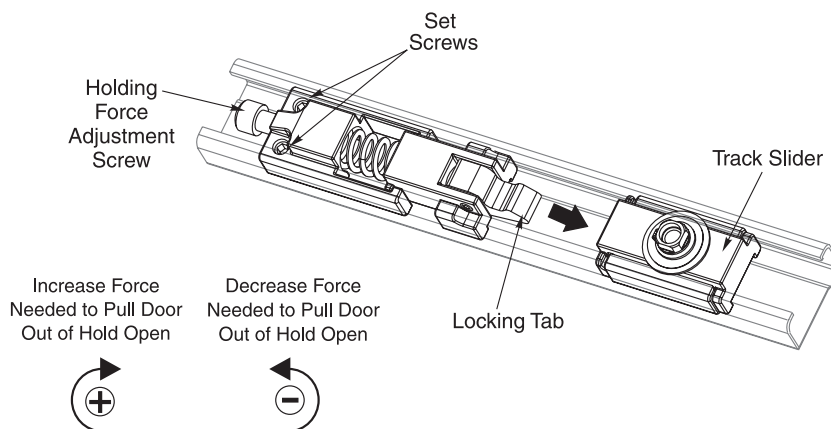

Figure 19
1. Insert locking tab of hold open assembly into track slider. (Figure 19)